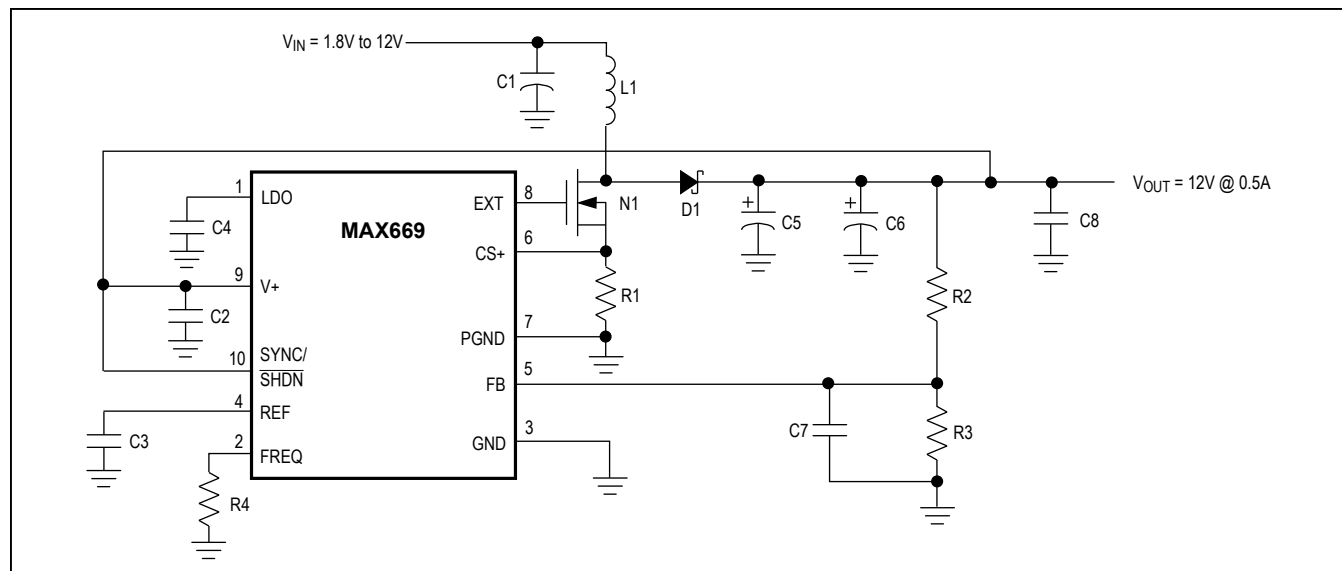
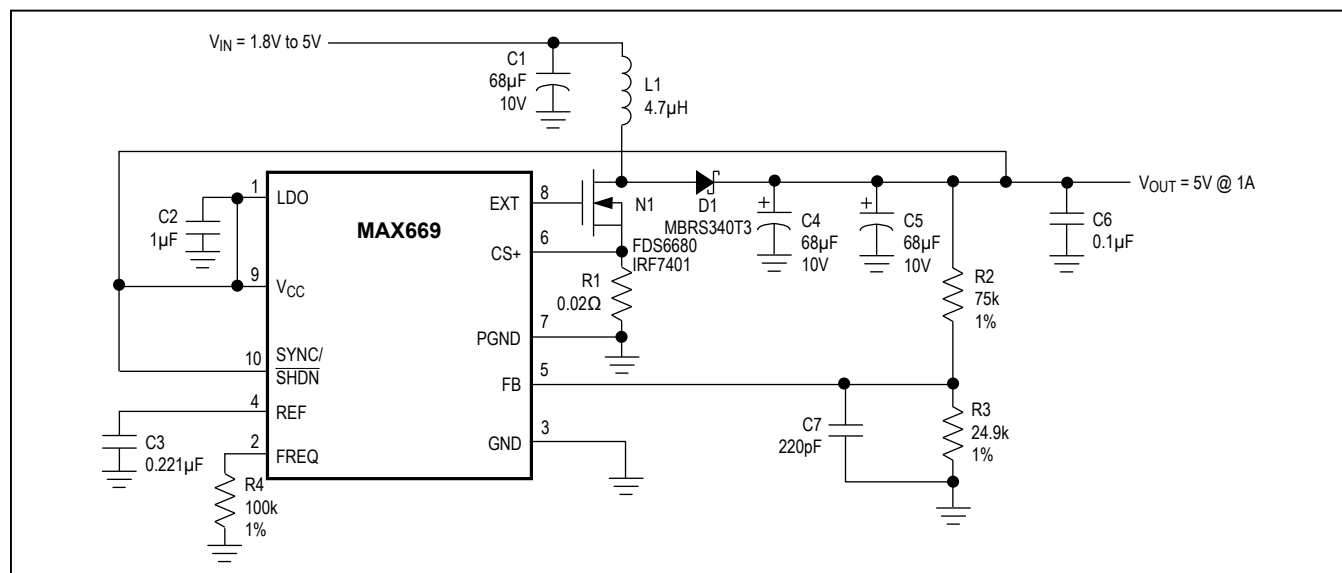
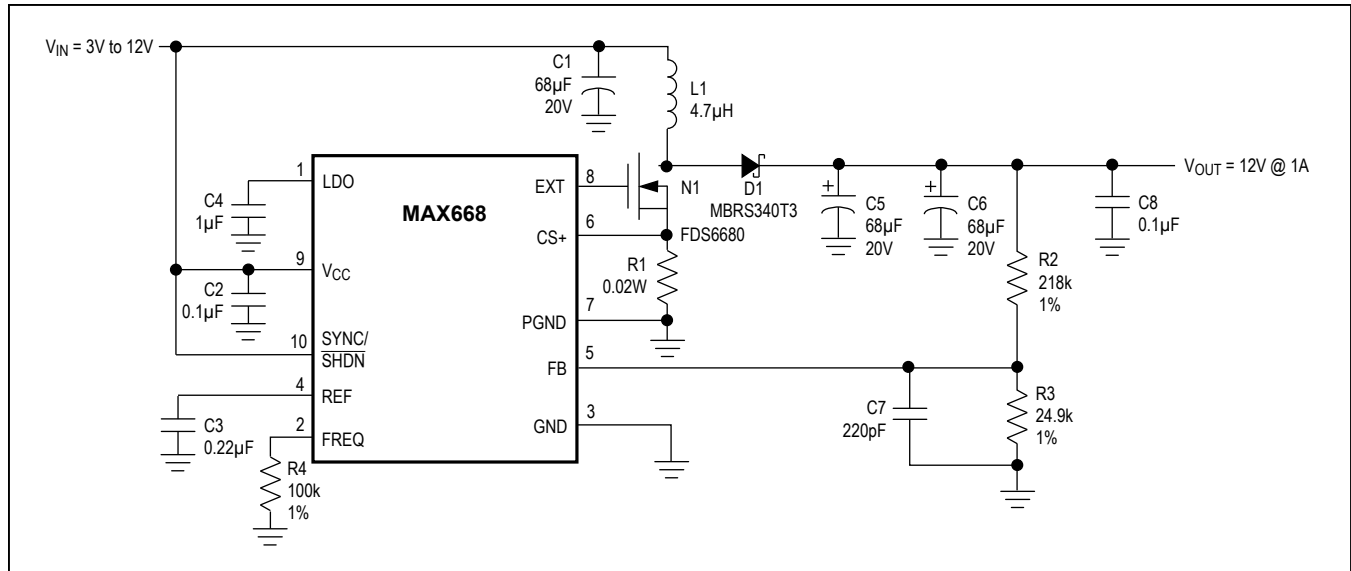
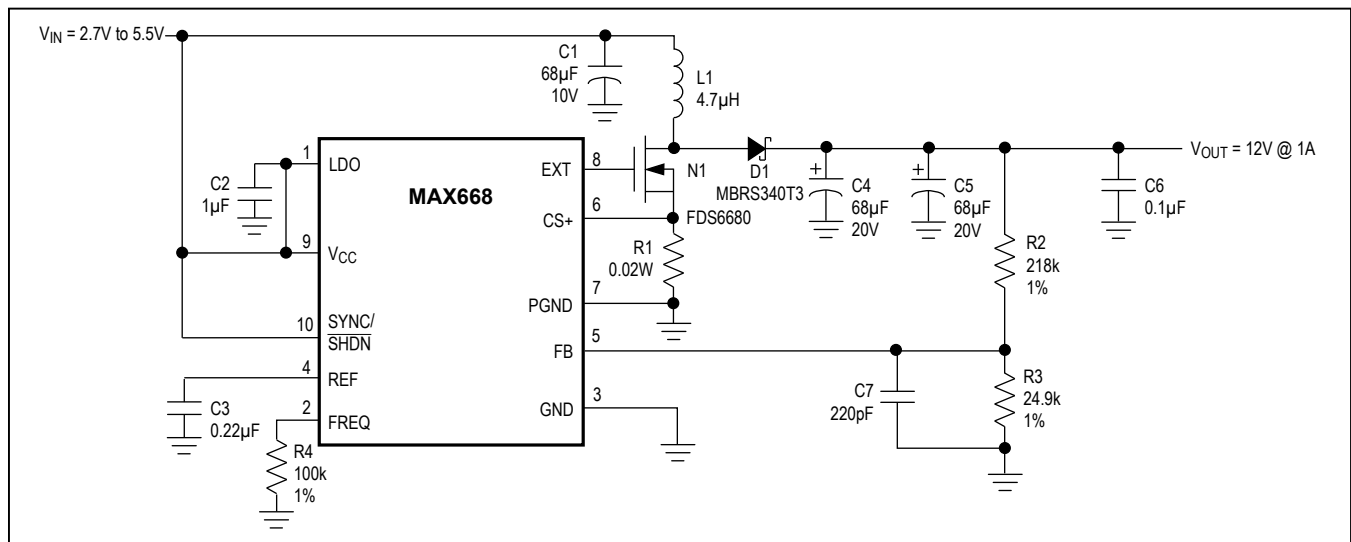

Figure 2. MAX669 High-Voltage Bootstrapped Configuration
Figure 3. MAX669 Low-Voltage Bootstrapped Configuration
Figure 4. MAX668 High-Voltage Non-Bootstrapped Configuration
Figure 5. MAX668 Low-Voltage Non-Bootstrapped Configuration
(Circuits of Figures 2, 3, 4, and 5; $T_A = +25^\circ\text{C}$; unless otherwise noted.)
V_{CC} and LDO allow a variety of biasing connections to optimize efficiency, circuit quiescent current, and full-load start-up behavior for different input and output voltage ranges. Connections are shown in Figure 2, Figure 3, Figure 4, and Figure 5. The characteristics of each are outlined in Table 1.
With V_{CC} connected to V_{OUT} , as in Figure 2, EXT voltage swing is 5V when V_{CC} is 5.2V or more, and $V_{CC} - 0.2V$ when V_{CC} is less than 5.2V. If the output voltage does not exceed 5.5V, the on-chip regulator can be disabled by connecting V_{CC} to LDO (Figure 3). This eliminates the LDO forward drop and supplies maximum gate drive to the external FET.
With non-bootstrapped operation, the IC is powered from the input voltage (V_{IN}) or another source, such as a logic supply. Non-bootstrapped operation (Figure 4) is recommended (but not required) for input voltages above 5V, since the EXT amplitude (limited to 5V by LDO) at this voltage range is no higher than it would be with bootstrapped operation. Note that non-bootstrapped operation is *required* if the output voltage exceeds 28V, since this level is too high to safely connect to V_{CC} . Also note that **only the MAX668 can be used with non-bootstrapped operation**.
If the input voltage does not exceed 5.5V, the on-chip regulator can be disabled by connecting V_{CC} to LDO (Figure 5). This eliminates the regulator forward drop and supplies the maximum gate drive to the external FET for lowest on-resistance. Disabling the regulator also reduces the non-bootstrapped minimum input voltage from 3V to 2.7V.
* For standard step-up DC-DC circuits (as in Figures 2, 3, 4, and 5), regulation cannot be maintained if V_{IN} exceeds V_{OUT} . SEPIC and transformer-based circuits do not have this limitation.
The output voltage is set by two external resistors (R2 and R3, Figure 2, Figure 3, Figure 4, and Figure 5). First select a value for R3 in the 10kΩ to 1MΩ range. R2 is then given by:
where $R2$ and $R3$ are the feedback resistors (Figure 2, Figure 3, Figure 4, and Figure 5). If the calculated value for C_{FB} results in a non-standard capacitance value, values from $0.5C_{FB}$ to $1.5C_{FB}$ will also provide sufficient compensation.
In non-bootstrapped configurations (Figure 4, and Figure 5), the MAX668 can start up with any combination of output load and input voltage at which it can operate when already started. In other words, there are no special limitations to start up in non-bootstrapped circuits.
Figure 5 shows the MAX668 operating in a 5V to 12V boost application. This circuit provides output currents of greater than 1A at a typical efficiency of 92%. The MAX668 is operated in non-bootstrapped mode to minimize the input supply current. This achieves maximum light-load efficiency. If input voltages below 5V are used, the IC should be operated in bootstrapped mode to achieve best low-voltage performance.